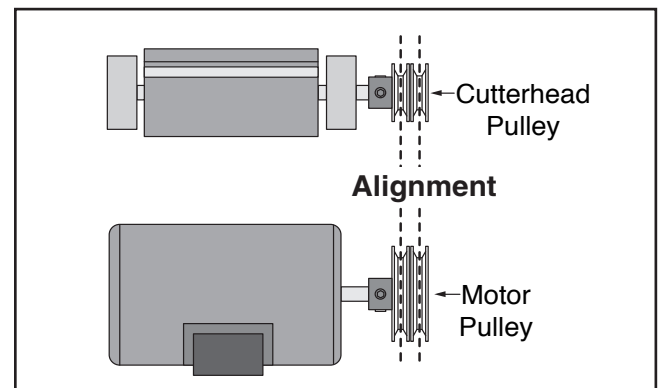

Figure 42. Pulleys aligned.
3. Visually check alignment of both pulleys to make sure they are aligned and V-belts are straight up and down, as shown in **Figure 42**.
- Tighten motor mount fasteners. V-belts should be parallel and aligned, as illustrated in **Figure 42** on **Page 36**.